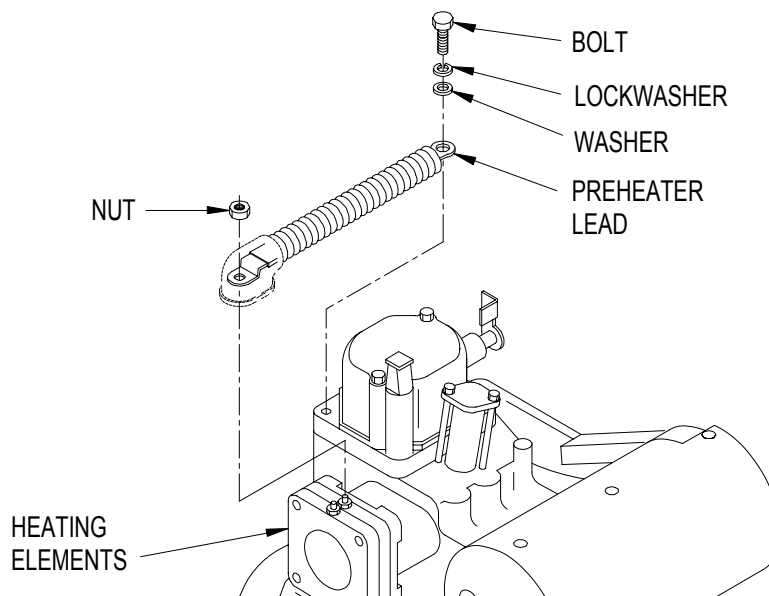

Figure 4-62. Preheater Lead
- (1) Shut down generator set.
- (2) Remove nut (Figure 4-62) and disconnect preheater lead at stud on air intake heating elements. Then remove bolt, washer, and lockwasher securing other terminal of preheater lead to diesel engine.
- (3) Cut tie wraps as necessary and remove preheater lead.
- (1) Route preheater lead (Figure 4-62) as removed. Use new cable ties to secure lead where required.
- (2) Connect preheater lead at air intake heating elements stud with nut. Then connect other end to engine with bolt, lockwasher, and washer.